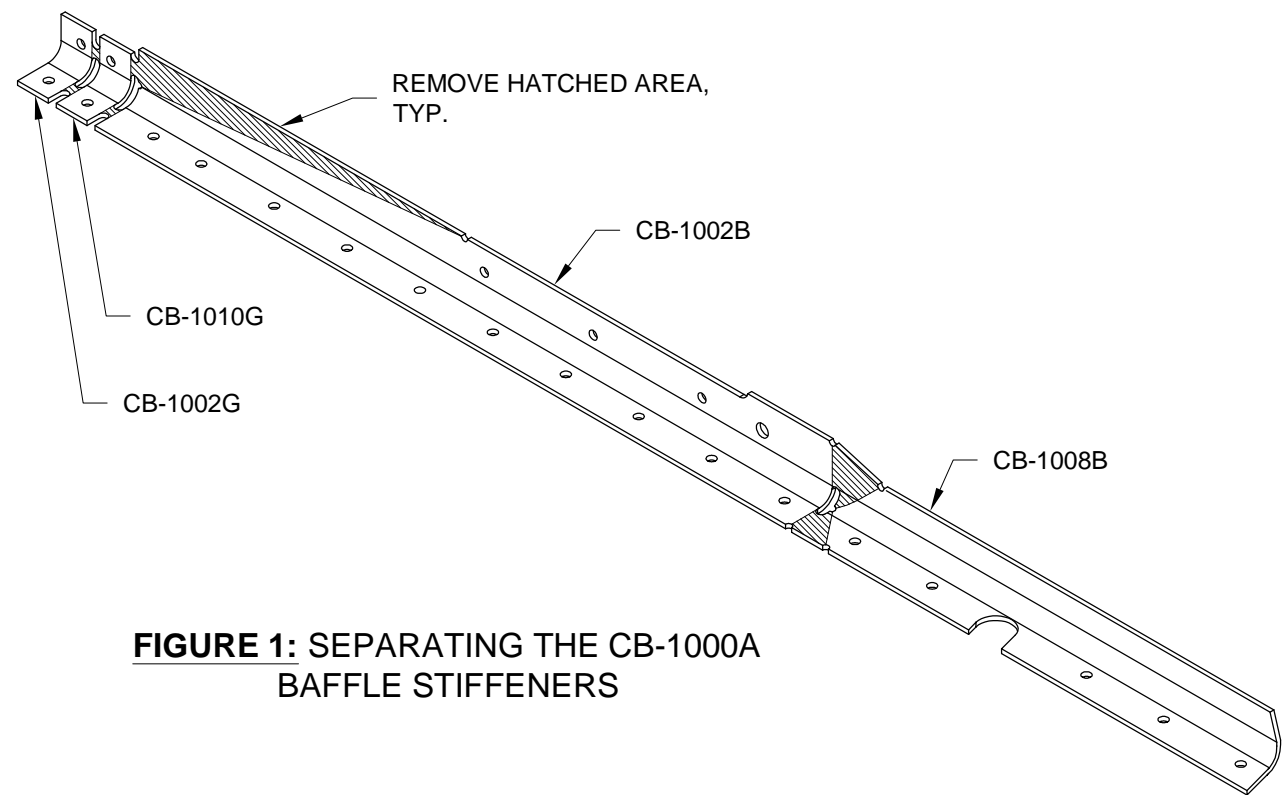
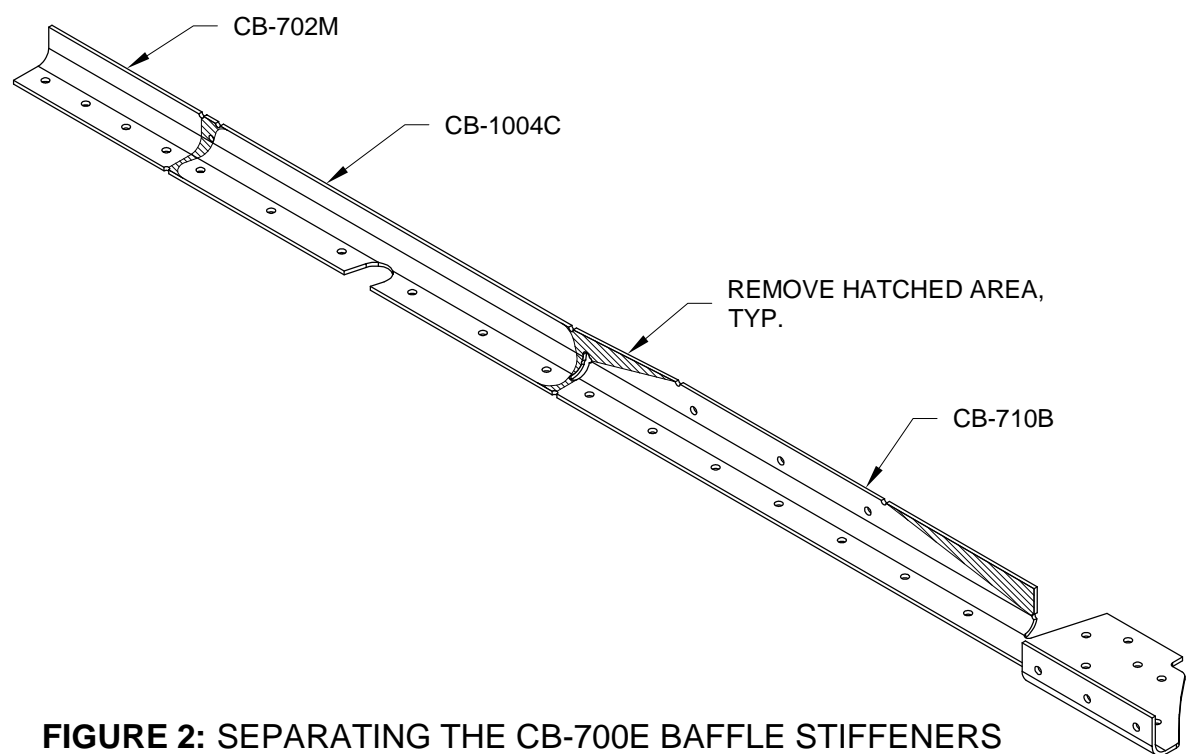

FIGURE 1: SEPARATING THE CB-1000A
FIGURE 2: SEPARATING THE CB-700E BAFFLE STIFFENERS
OP40-7 REV 1: Revised Figure 1 to depict CB-1003C as installed on page OP40-5.
Removed Figure 1.
Figure 1 was Figure 2.
Step 1: Mark the part numbers on all parts of both the CB-1000A and CB-700E Baffle Stiffeners per the callouts in Figure 1 and Figure 2.
Step 2: Remove the hatched areas from both the CB-1000A and CB-700E Baffle Stiffeners as shown in Figure 1 and Figure 2, then deburr the edges and round the corners (to remove the notches) on all individual parts.